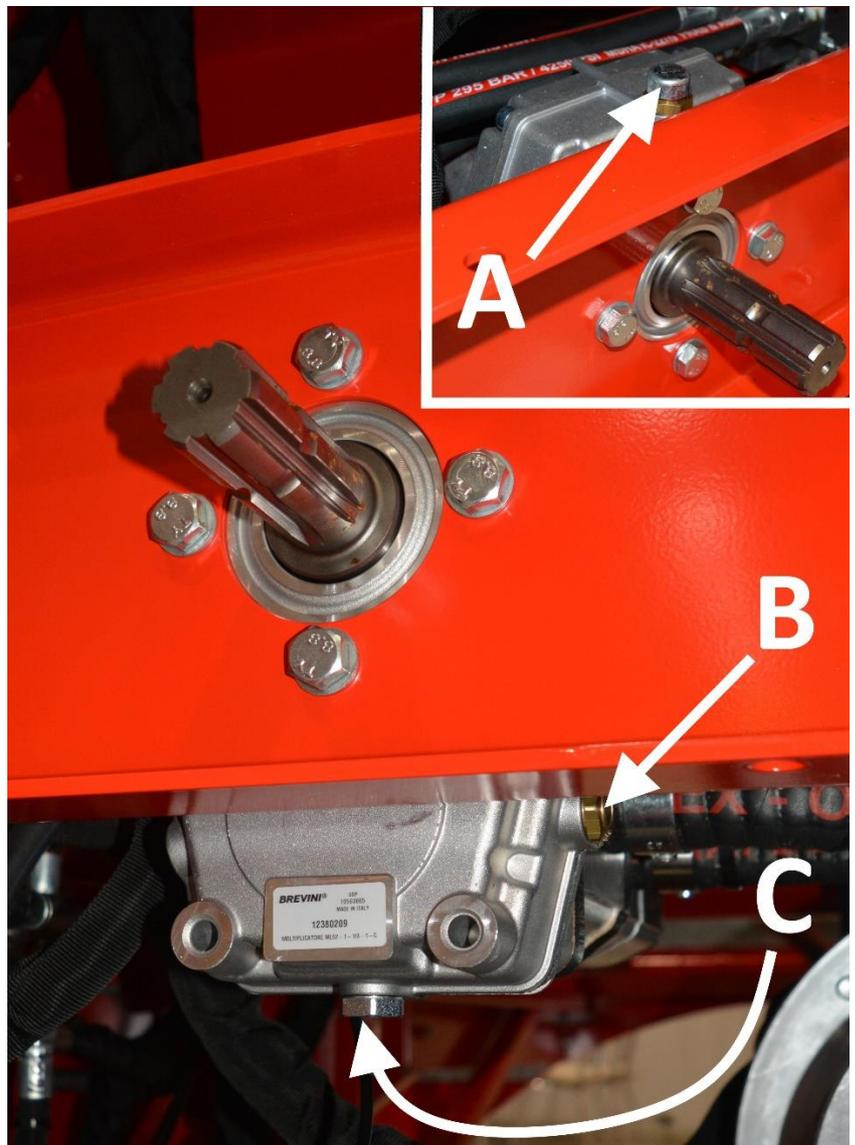

Figure 32.
1. Remove drain plug C (Figure 32) and drain the oil into a suitable container.
2. Close plug C and open filler cap A (Figure 32).
4. You can check the oil level through oil level gauge B (Figure 32).